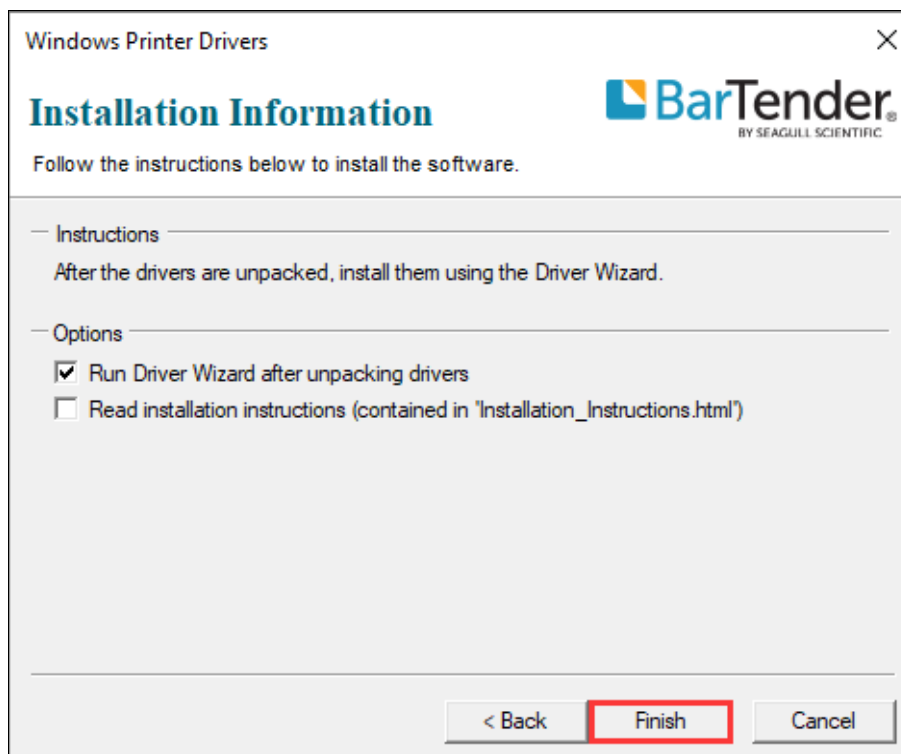

Figure 2-34 Installation Information Screen
5. On the “Installation Information” screen, check the box that says “Run Driver Wizard after unpacking drivers”, then click “Finish”, as shown in Figure 2-34.